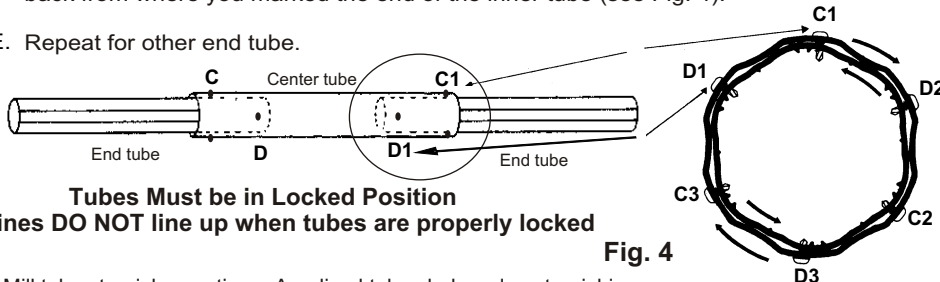

Fig. 4
- B. Lock tubes together by rotating the center tube in the opposite direction to end tube. **HOLD TUBES LOCKED WHILE YOU INSTALL FIRST SELF-DRILLING SCREW ON A DRILL LINE**, 1" (2.5 cm) back from end of center tube at location "C1" (Fig. 4 & 5).
- C. Place 2 more self-drilling screws at Location "C2" and "C3" - 1 screw on every second Drill Line around tubes (see Fig. 4).
- D. At "D" locations, install 3 screws around the center tube on every second drill line, 1" (2.5 cm) back from where you marked the end of the inner tube (see Fig. 4).